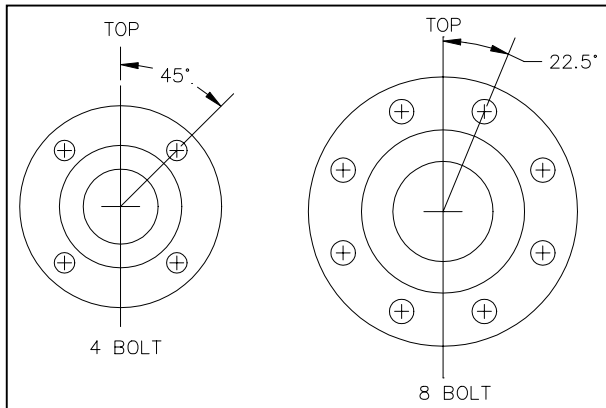

Figure 3. Bolt Hole Location
- Weld Flanges to existing pipe per ANSI B31.1. Make certain that the pipe flanges and Accelabar flanges are the same NPS size and ANSI rating. Bolt hole location must be as shown in Figure 3 (does not show twelve and twenty bolt patterns; orientation is typical).